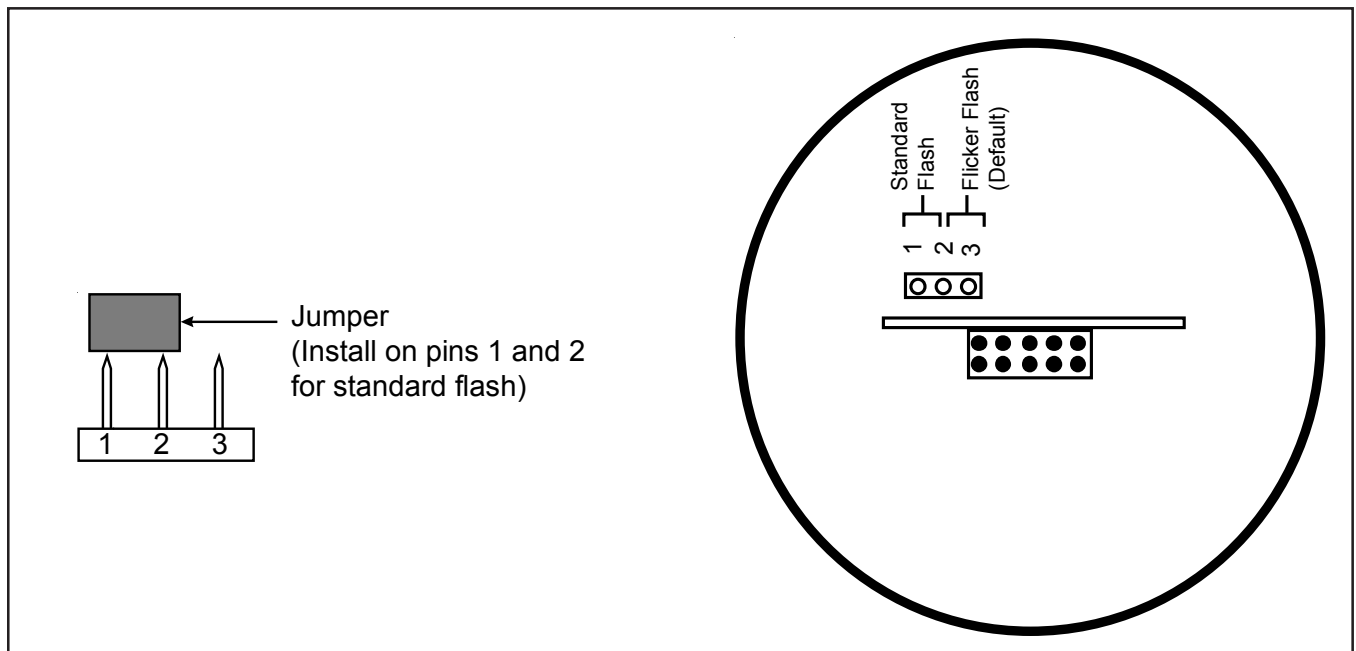

Figure 3. Installing the Jumper (View of inside bottom of unit)
The 109 Series Visual Indicator is supplied with a default setting of Star-Burst flicker flash. If a standard flash rate of 65 fpm is desired, open the unit by removing (4) screws securing the lens to the base and install jumper on pins 1-2 as shown in Figure 3.